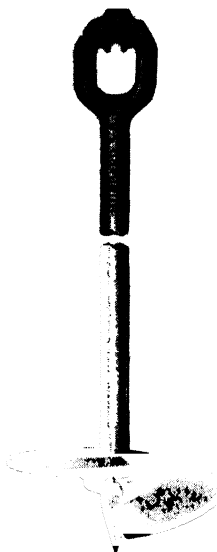
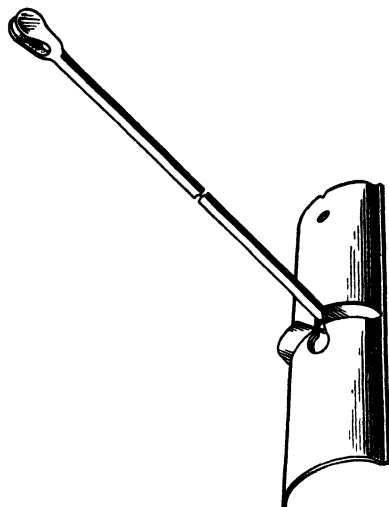

FIG. 4-44. Screw-type anchor.
FIG. 4-45. View showing "never-creep"
**Anchors.** Guy anchors are of many varieties. The ordinary log anchor (Figs. 4-42 and 4-43) was once in wide use, but the cost of digging it in the ground has brought several patented anchors on the market which are cheaper to install. Figure 4-44, for example, illustrates a screw-type anchor which is screwed into the ground. Figure 4-45 illustrates the so-called "never-creep" anchor which consists of two parts: a rod and a thimble eye. A hole is bored at an angle for the thimble, and the rod is pierced through the undisturbed ground to catch into the thimble. Many other designs are also on the market. All of them are easier to install than the log anchor, but where large pulls must